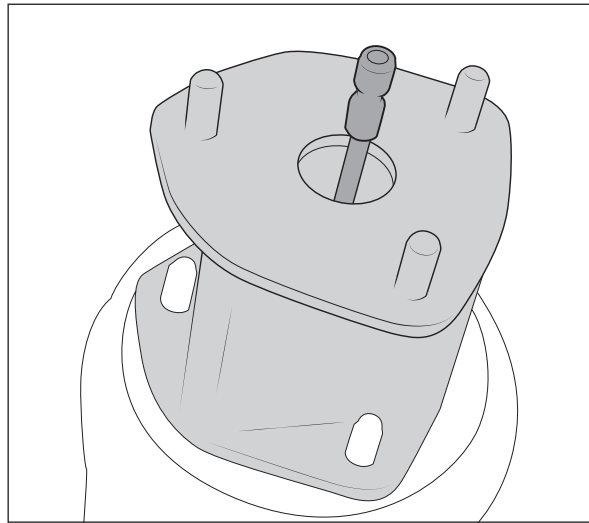

Figure 14
8. Install spacers on top of strut using factory hardware, making sure the air line extension passes through the center of the spacer. Torque to 40 ft-lbs (fig. 14).